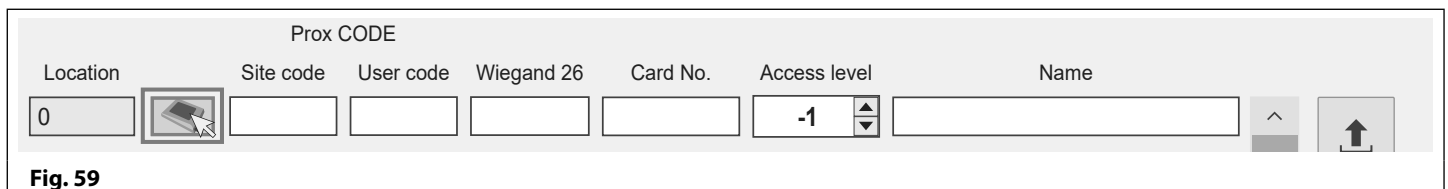

Fig. 59
- Click on the desktop prox icon next to the location where the fob/card is going to be stored, as shown in **Fig.59**.